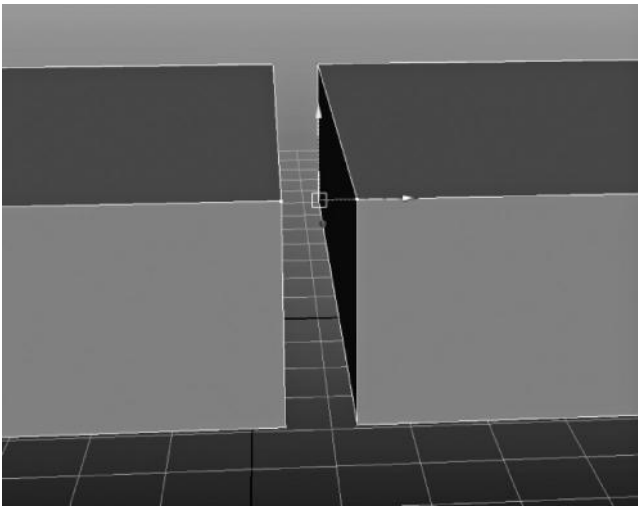
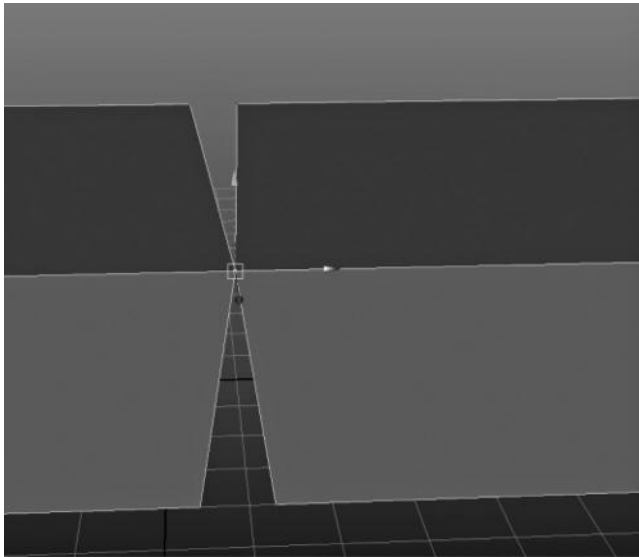

FIGURE 2.37 Vertices are selected for welding.
FIGURE 2.38 Vertices have been welded together.
**Merge** is a tool that works on vertices, sometimes known as “weld.” Essentially, you will select two vertices (Figure 2.37) and choose to merge or “weld” them together (Figure 2.38). This will combine them into a single vertex. It is also possible to merge multiple vertices together by a certain threshold, which is very useful when multiple vertices are set up to be connected to one another (such as mirroring geometry when using symmetrical modeling).